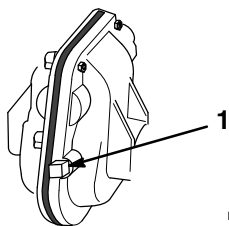

Figure 6
1. With the snowthrower lowered and on a level surface, remove the pipe plug from the auger gear box (Fig. 6) by placing the open end of a 3/8" drive socket extension over the plug and using a 3/8" open end wrench on the square end of the extension.